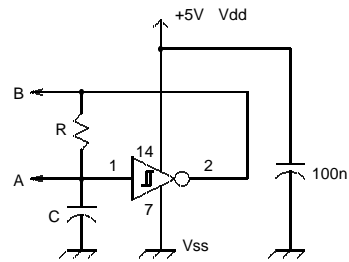

Figure 11: Schmitt Trigger Oscillator
1. Wire up the circuit according to figure 11, with $R=220k\Omega$, $C=100nF$.
2. Connect scope trace A to the input of the schmitt trigger and trace B to the output, as shown in figure 11.
1. Depending on what resistors and capacitors you have, modify the circuit of figure 11 with a resistor and capacitor combination that has a time constant around one second, eg, $1M\Omega$ with $1\mu F$, or $470k$ with $2\mu F$.